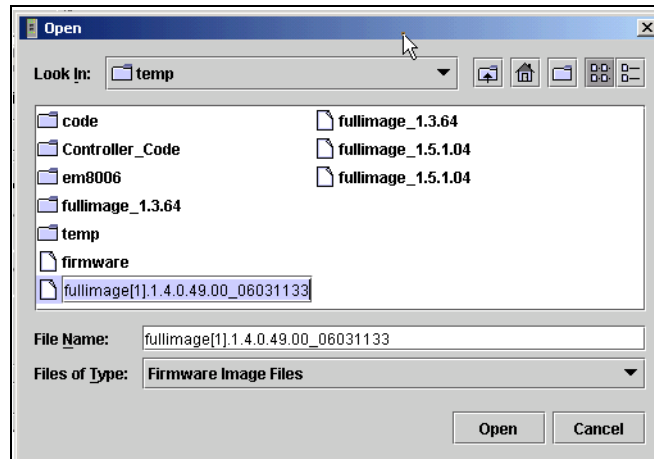

Figure 5-33 Firmware image selection
4. Highlight a firmware file and click the **Open** button as shown in Figure 5-33.